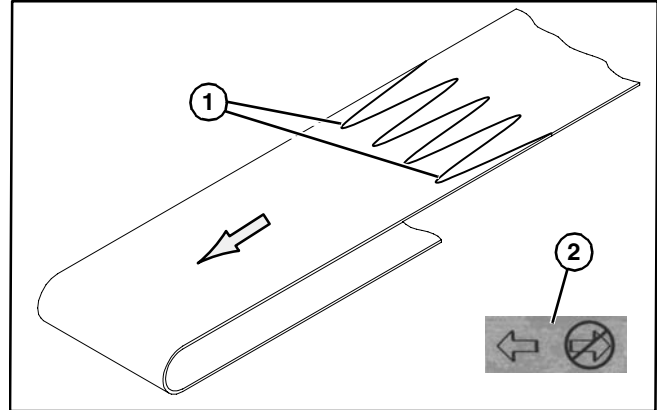

Figure 28
1. Orient belt so splice leading fingers (Figure 28, item 1) point in the direction of belt travel as identified by the conveyor directional label (Figure 28, item 2).
2. Orient belt so splice leading fingers (**Figure 28, item 1**) point in the direction of belt travel as identified by the conveyor directional label (**Figure 28, item 2**).